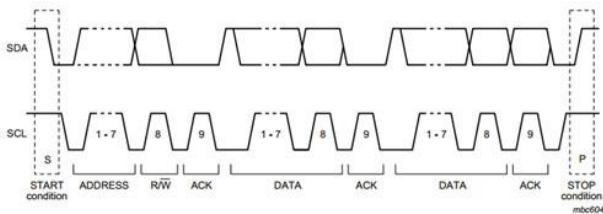
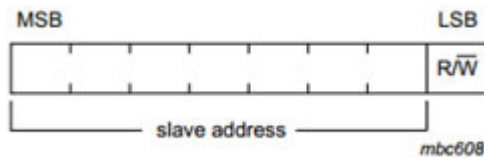

Figure 3: A Complete I2C Data Transfer
Figure 4: The 1st byte after the START procedure
Data transfers follow the format shown in Figure 3. After the START condition (S), a slave address is sent. This address is seven bits long followed by an eighth bit which is a data direction bit (R/W) — a ‘zero’ indicates a transmission (WRITE), a ‘one’ indicates a request for data (READ) (refer to Figure 4). A data transfer is always terminated by a STOP condition (P) generated by the master. However, if a master still wishes to communicate on the bus, it can generate a repeated START condition (Sr) and address another slave without first generating a STOP condition. Various combinations of read/write formats are then possible within such a transfer.